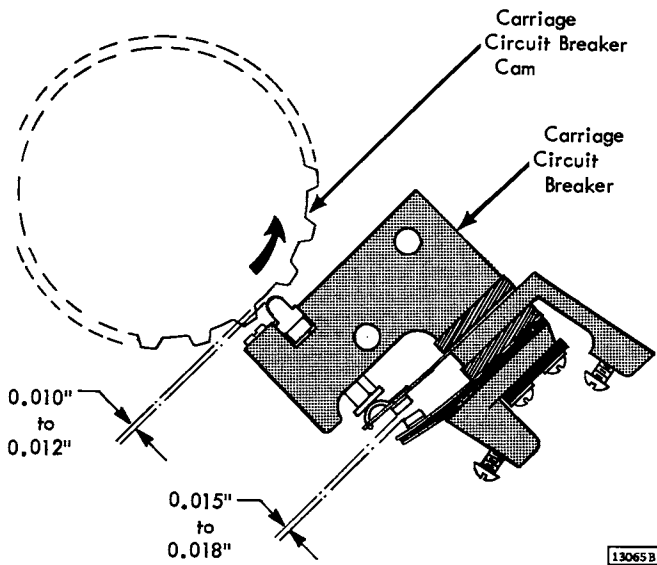

Figure 4-37. Carriage CB and CB Cam
1. Set the carriage circuit breaker points for 0.015" to 0.018" air gap (Figure 4-37).
2. Position the carriage circuit breaker assembly for a clearance of 0.010" to 0.012" between the contact plunger and the low dwell of the cam (Figure 4-37).